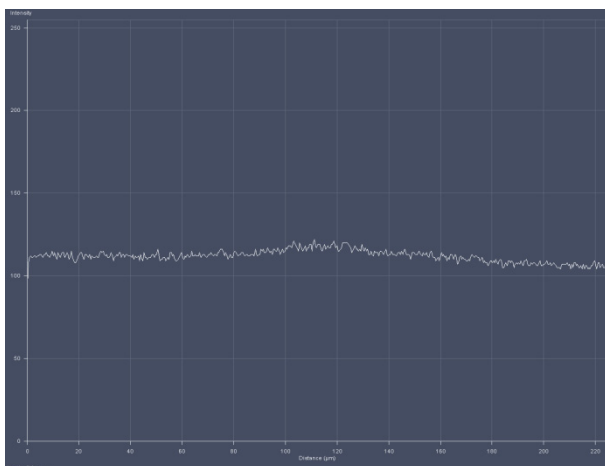

Fig. 310 Line diagram near the lower cover slip surface
- If the focus position approaches the lower cover slip surface, the position of the line will shift to higher values (Fig. 310).